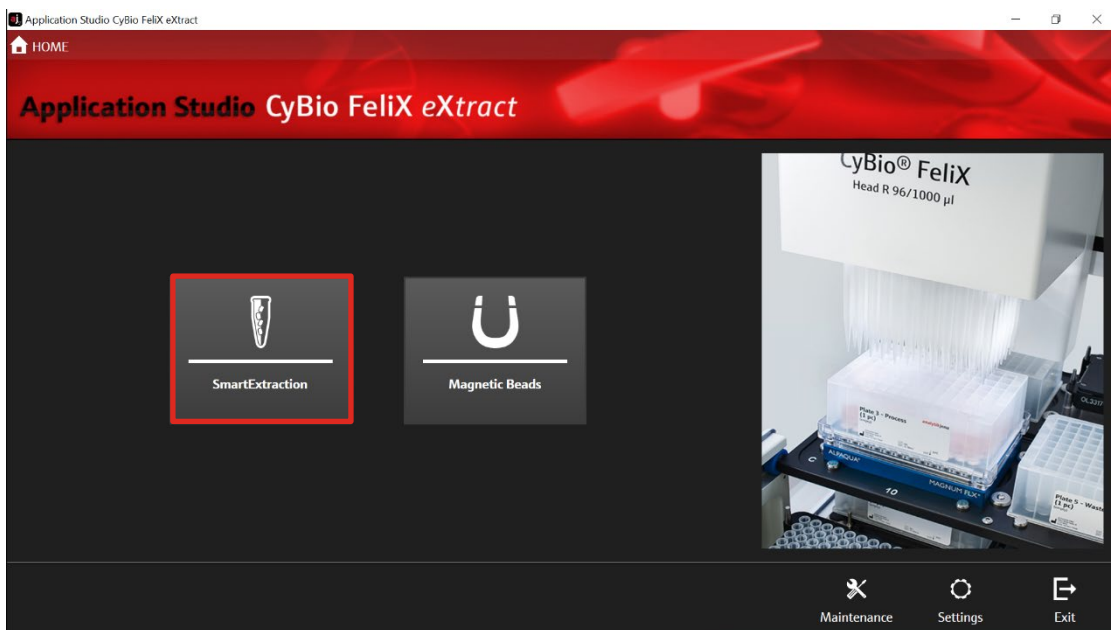

Figure 22: HomeScreen of the AppStudio FeliX eXtract. Selection of extraction technology: “SmartExtraction”.
15. Select the extraction technology “SmartExtraction” (→ see Figure 22) and the extraction kit “smart Blood DNA Midi direct prep (a96) – FX” (→ see Figure 23).